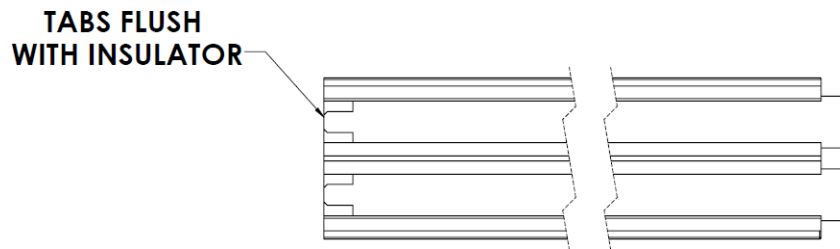

Figure 29: **Male Terminal Tabs Flush with the Plastic Insulator**
- a. Push in the protruding male terminal tabs on the TransStrip so they're flush with the plastic insulator (Figure 29).